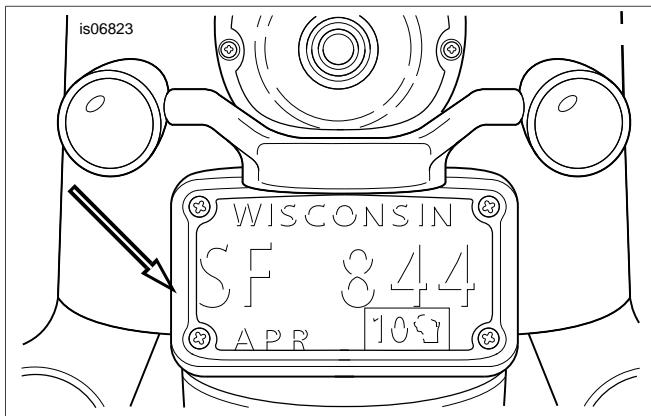

Figure 4. License Plate Assembly
4. See Figure 4. Place the light bar on the rear fender and install stock fasteners. Tighten fasteners to 84-144 **in-lbs** (9.5-16.3 Nm)